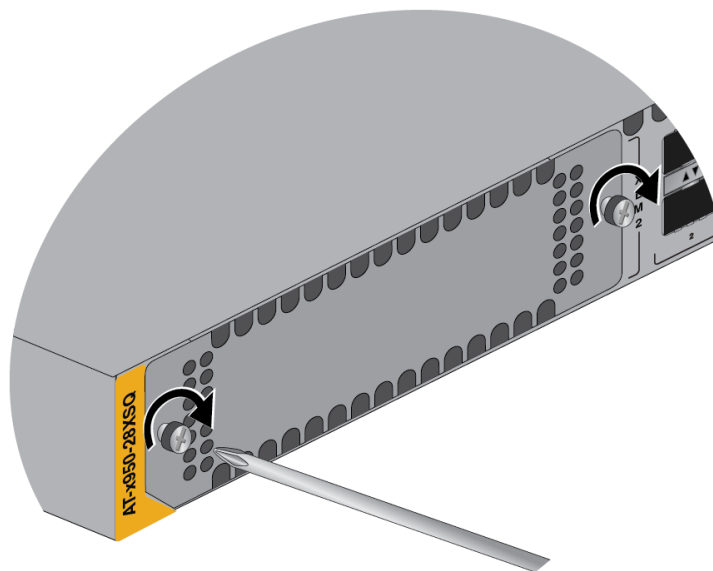

Figure 128. Tightening the Two Screws on the Line Card Blank Panel
10. Tighten the two screws to secure it to the switch. Refer to Figure 128.